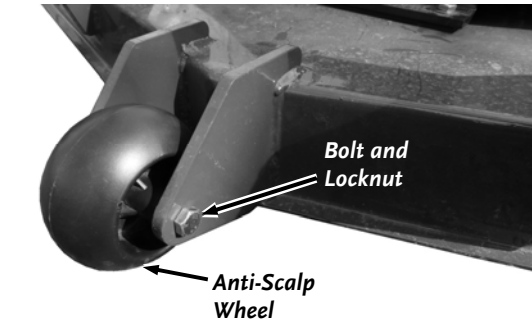

Figure 12
9. Position the Anti-Scalp Wheel and secure with the M12X125 Bolt (#39441), M12 Plain Washer and M12 Locknut using a 18mm Wrench on the Bolt and a 19mm Wrench on the Locknut (**Figure 12**).